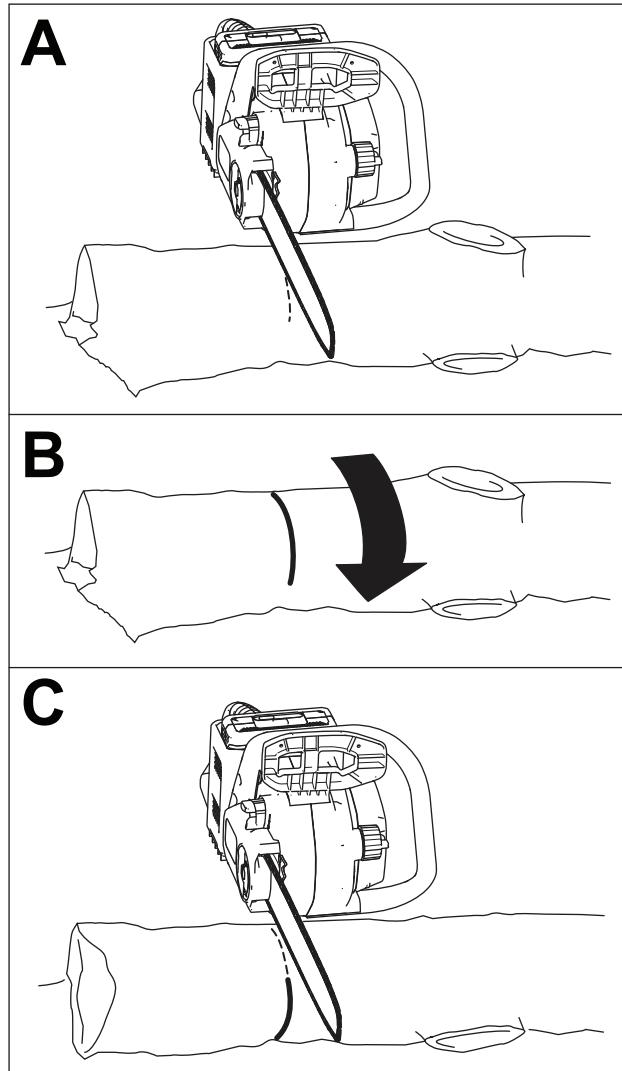

Figure 21
- If the log is supported on both ends but not in the middle, cut a third of the diameter from the top, then either cut from the bottom or roll the log over to meet the first cut (Figure 21).